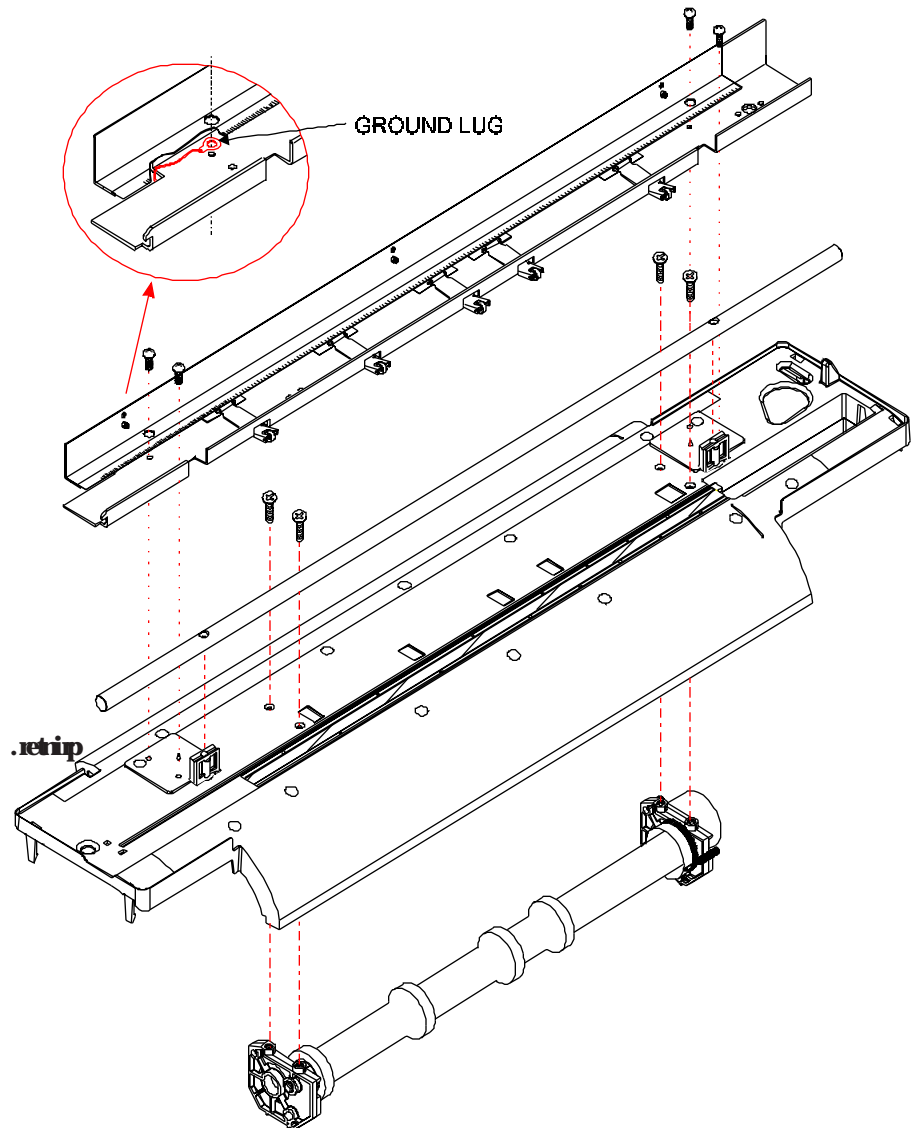

Figure 5-14. C-Bracket Assembly and Platen Removal.
7. Remove the C-Bracket Assembly by removing the four attaching screws. See Figure 5-14.
10. Disconnect the Lower Drive Shaft Assembly from the Platen by removing the 4 attaching screws. See Figure 5-14.
9. Attach the C-Bracket Assembly and ground strap to the Platen by aligning the bracket onto the bracket guide pins and securing with attaching hardware to 15 in-lb of torque. See insert of Figure 5-14 for connection of ground strap onto the C-Bracket. Ensure that the Pinch Rollers are centered on the lower rollers and that tension is being applied the the lower rollers.